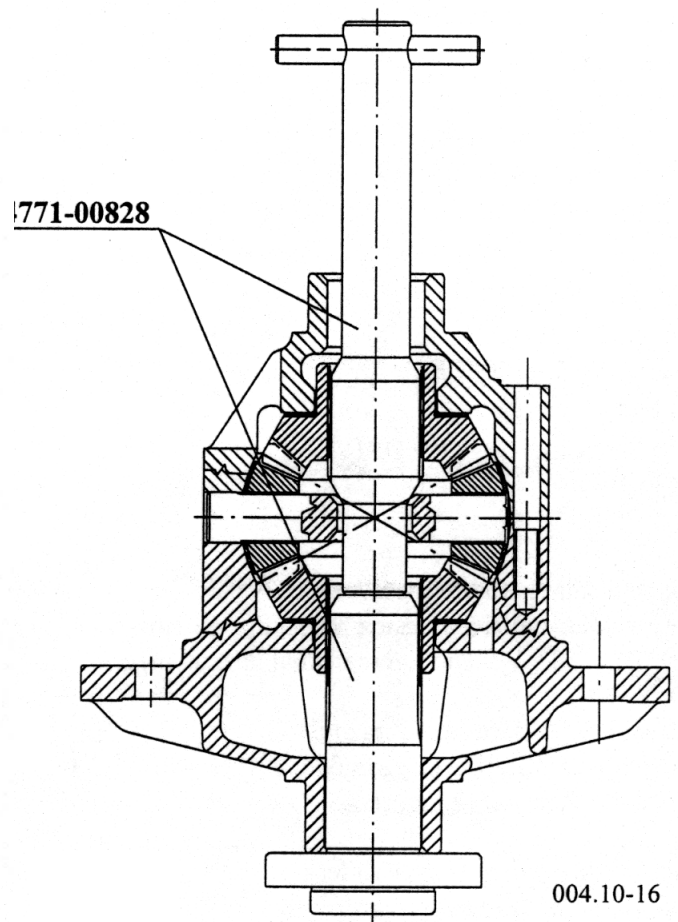

Fig. 2.: MOUNTING AND CHECKING THE DIFFERENTIAL
Place the flanged differential half case (31) into the assembly mandrel (Fig. 2.). Position the differential side washer (26) and differential gear (27) and differential pinion washers (30) with the differential pinion (29) and cross shaft (28). Position the other differential gear and the spacer disc.